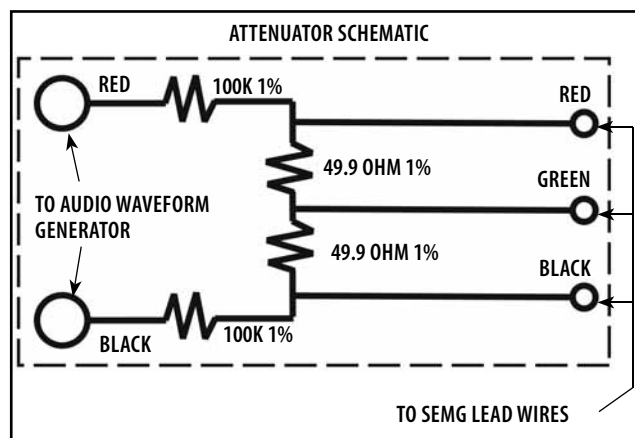

FIGURE 5.28
1. It will be necessary to build an Attenuator for this test. See Figure 5.28 for schematic of the required Attenuator.